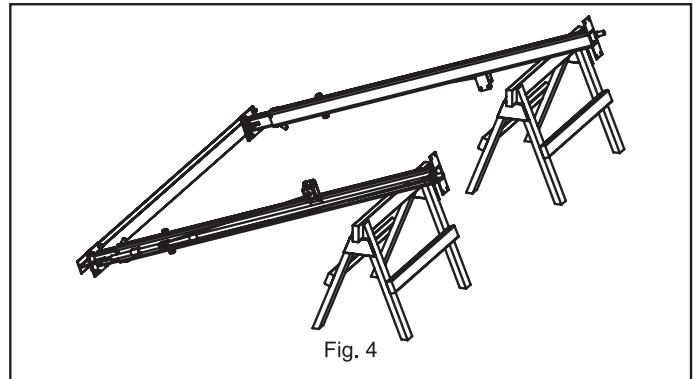

Fig. 4
Step 4: Assemble the Base Cross Tube to the Vertical Support Assemblies. A method to make assembly simple and safe, use a pair of sawhorses to prop up the ends of the Vertical Supports as shown in Fig. 4.